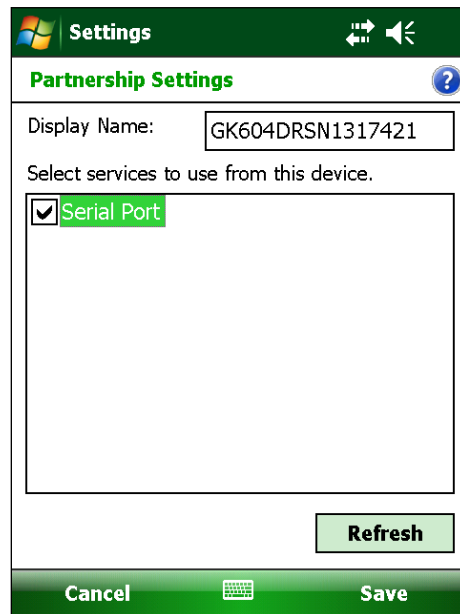

Figure 24 - Serial Port Check Box
- 9) Lastly verify that the Bluetooth device is set for Serial Port operation. From the “Devices” tab of the Bluetooth Settings manager, tap the device to be used to communicate with the remote. Figure 24 will be displayed. Ensure that the “Serial Port” checkbox is checked. Tap “Save” to complete the Bluetooth Settings.